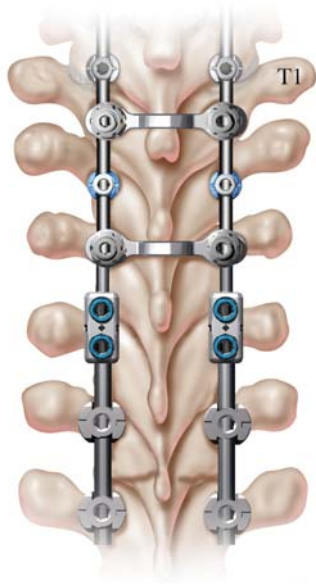

Figure 27
- Rods are measured, cut and contoured. Axial Connectors are loaded onto the rods, which are back entered into the upper and lower foundations such that the joint between the two rods lies at the point where the center of the connector will be placed. The lower and upper Set Screws of the connector are tightened provisionally with the X25 Hex Lobe Driver. Final tightening of the Set Screws occurs once all components are in their final position (Figure 27).